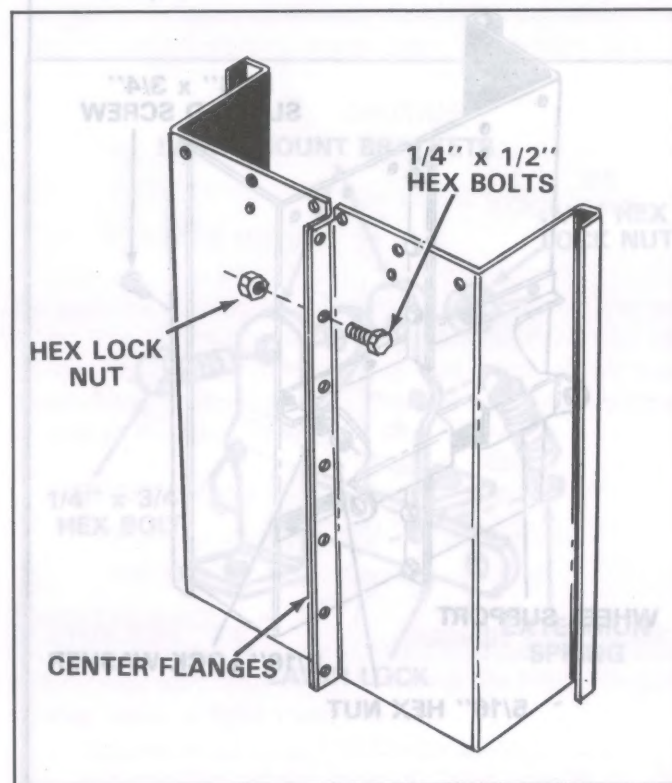

FIGURE 2
2. Position cart body halves upright on a smooth level surface, as shown in figure 2.
3. Start 1/4" x 1/2" hex bolts and 1/4" hex lock nuts through flanges, only make finger tight until all six (6) bolts are in place. See figure 2. **Tighten all six (6) bolts.**